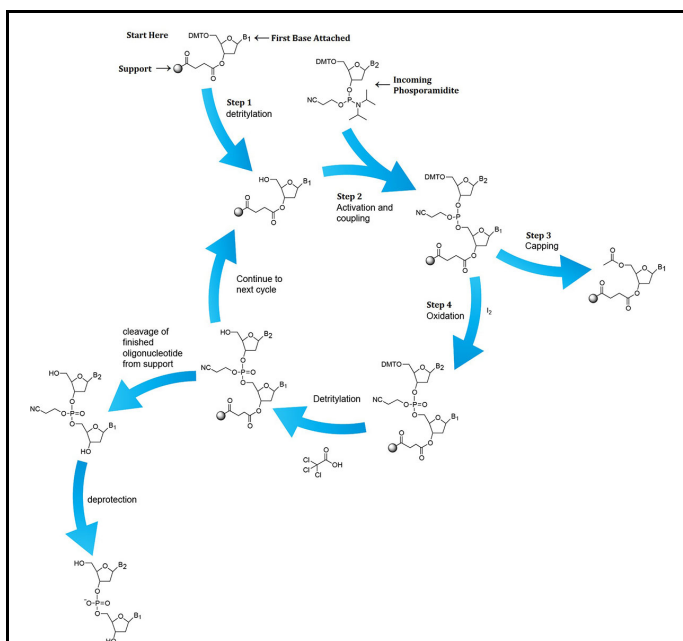

Figure 1
Overview of Synthetic Oligonucleotide Synthesis on a solid-phase support. Most common types of support used in synthesising single stranded DNA are Controlled Pore Glass (CPG) and Polystyrene (PS). Supports with first nucleotide already attached are referred to as (Standard) and supports without a nucleotide attached are known as (Universal). Phosphoramidite synthesis proceeds in 3' to 5' direction with one nucleotide added per cycle. Refer to (Figure 1).